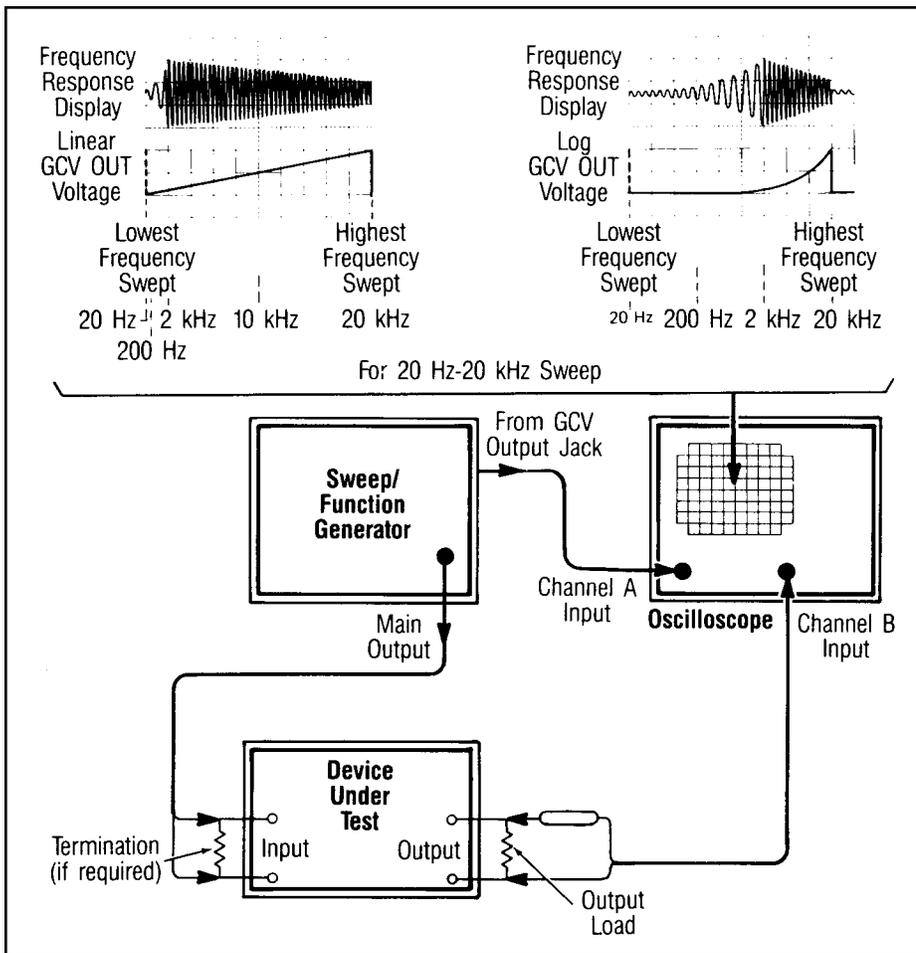

Fig. 12 Frequency response measurement, linear/log display method.
9. Initially, set the sweep rate so that it is high enough for one or more cycles of sawtooth waveform to be displayed, either linear or log, like the bottom traces in Fig. 12. Set the oscilloscope to trigger on the GCV waveform (channel A in this example). Note: direction of the ramp depends on the particular generator.
Refer to Fig. 12.
12. Readjust the oscilloscope sweep speed to display one cycle of the sweep voltage waveform, and spread it out over some convenient number of horizontal divisions. Each division can later serve as a frequency marker if the corresponding frequency is calculated. For example, the first display in Fig. 12 shows a 20 Hz to 20 kHz linear sweep display spread over 10 divisions. The difference between the lowest and highest frequency is almost 20 kHz. Therefore, starting from the left of the display at 20 Hz, each division equals a frequency increase of 2 kHz. When log display is used, markers between the lowest and highest frequencies must be scaled logarithmically. The second display in Fig. 12 shows a 1000:1 log sweep display spread over nine horizontal divisions. Each three divisions equals a decade of frequency change; that is, after three divisions, the frequency has increased one decade or 10:1 (from 20 Hz to 200 Hz), after six divisions it has increased another decade or 100:1 (to 2 kHz), and after nine divisions, another decade, or 1000:1 (to 20 kHz).